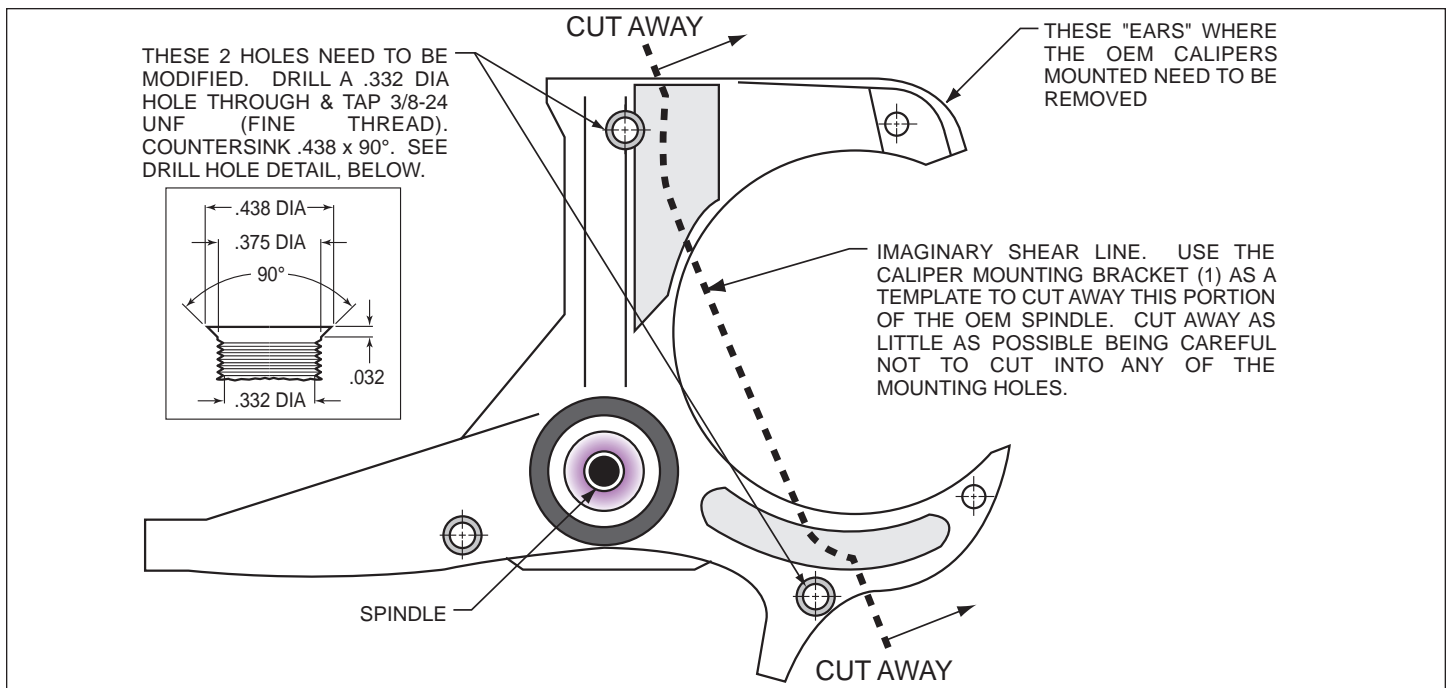
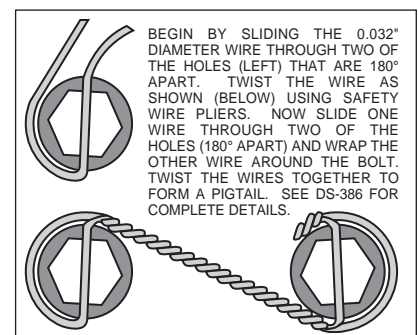

Figure 1. Steering Arm / Spindle Modifications
Figure 4. Safety Wire Diagram
These modifications should be performed by a qualified machinist. Refer to Figure 1 on the following page as necessary (numbers in parenthesis refer to the parts list on page three). Only one view of the steering arm/spindle is shown, but the modifications need to be performed on both steering arm/spindles.
The two stock holes that will be used to mount the caliper mounting bracket (1) need to be modified (figure 1). Drill a .332 diameter hole through both holes, then tap 3/8-24 UNF (fine thread). Countersink the holes to .438 x 90°. The “ears” that protrude to form a “C” shape need to be removed to facilitate the installation of the Wilwood caliper (22). Using the caliper mounting bracket (16) as a template, mark two cut marks on the steering arm. Remove as little as necessary from the “C” shape, being careful not to cut away any of the mounting holes required to bolt on the caliper mounting bracket (1).
- Pack the large inner bearing cone (5) with high temperature disc brake bearing grease (available from your local auto parts store) and install into the backside of the hub (4).
- Install the grease seal (6) by pressing into the backside of the hub (4).
- Pack the small outer bearing cone (12) with high temperature disc brake bearing grease and install into front side of the hub (4). Slide the hub assembly (4, 5, 6 and 12) onto the spindle. Secure using spindle washer (13), stock adjusting nut, and nut locking device. Adjust wheel bearing pre-load per Original Equipment Manufacturer (OEM) specifications.
- Install the O-ring (14) and the dust cap (15) into the hub (4). **NOTE:** O-ring (14) friction will not allow cap (15) to unscrew on its own.
- With the larger I.D. side of the rotor (7) facing away from the hat (8), bolt rotor (7) to hat (8) through the backside of the rotor using washers (9) and bolts (10). Using an alternating sequence, apply red *Loctite*® 271 to the threads and torque bolts to 155 **in-lb**. For an added measure of security, the bolts may be safety wired using standard 0.032 inch diameter stainless steel safety wire as shown in Figure 4. Please refer to Wilwood's data sheet DS-386 (available at www.wilwood.com/Pdf/DataSheets/ds386.pdf) for complete safety wire installation instructions.
- Slide the rotor/hat assembly over the studs (3) in the hub (4) taking care to align the small countersunk holes in the hat (8) with the small threaded holes in the hub (4). Install three flat head socket head screws (11) through the small holes in the hat (8) and torque to 85 **in-lb**. Check to be sure the hat seats squarely against the hub face.
- NOTE:** Please reference the caution statement at the beginning of the assembly instructions. The caliper mount brackets (16) should be installed first with clean, dry threads on the mounting bolts (17). Place sleeve (19) into the holes on the radial mount caliper bracket (16). Install the radial mount caliper bracket (16) on the backside on the flat caliper bracket (1) by sliding bolt (17) through washer (18) and through the bracket holes. Place spacer (20) and shim washer (21) between the two brackets and screw bolt (17) into insert nut on the flat caliper bracket (1). Finger tighten bolt (17). Use one thin shim (21) between the two brackets (1 and 16) during initial trial fitting.
- NOTE:** This kit contains distinct right and left hand calipers that must be mounted in a specific direction, as described below. Lubricate the caliper mounting studs (23) with lightweight oil. Initially place two .030" thick shims (24) on each stud as shown in Figure 1. Mount the caliper (22) onto the bracket (16) using lock nuts (26) and washers (25), Figure 1. Ensure that the caliper is mounted so that the largest pistons are at the rotor exit end of the caliper, in relation to the direction of rotor rotation. Temporarily tighten the lock nuts.
- View the rotor (7) through the top opening of the caliper (22). The rotor (7) should be aligned in the center of the caliper (22). If not, adjust the radial mount caliper bracket (16) by using shims (21 and/or 28) placed between the two brackets (1 and 16). Add as many shim washers (21 and/or 28) as necessary to achieve the correct alignment. Always use the same amount of shims on both the top and bottom radial mount caliper mounting bolts (17). Finger tighten and recheck alignment, adjust as necessary. Apply red *Loctite*® 271 to bolt threads (17) and torque to 47 **ft-lb**.